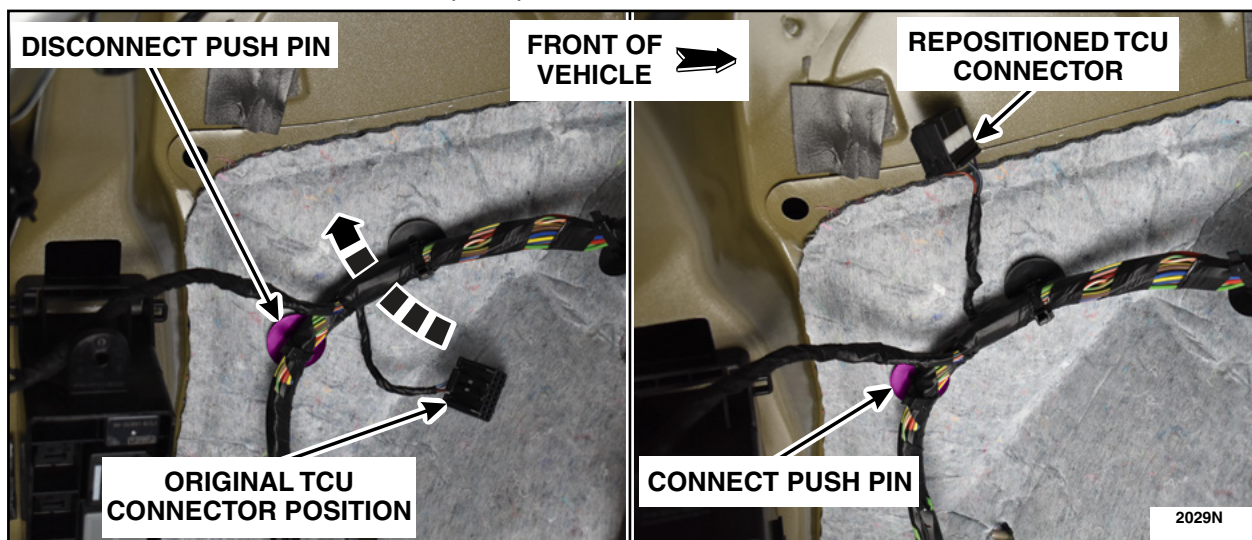

FIGURE 1
2. Reroute the TCU electrical connector. See Figure 1.